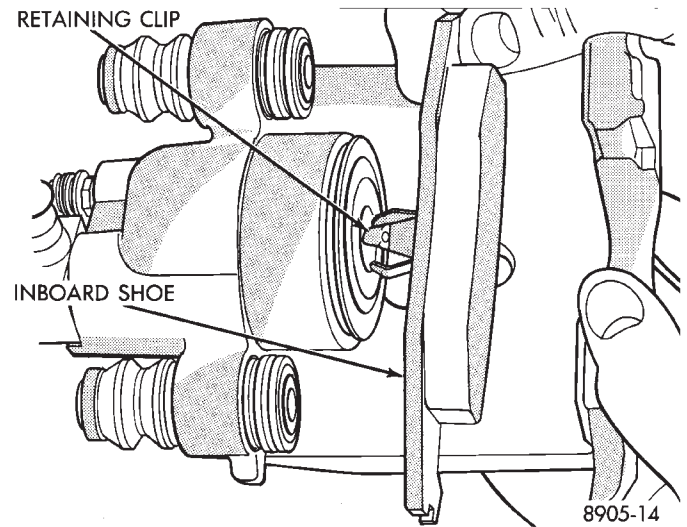

Fig. 102 Removing Inboard Brake Pad
(8) Pull inboard brake pad away from caliper piston, until retaining clip is free from cavity in piston. (Fig. 102).